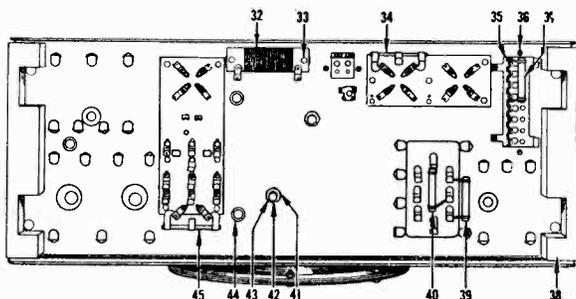

Fig. 4—Bottom View of Amplifier-Speaker Unit, showing parts.
- e. Open or shorted center tap resistor in amplifier unit. (Shown at 34 and 45, Fig. 4.)